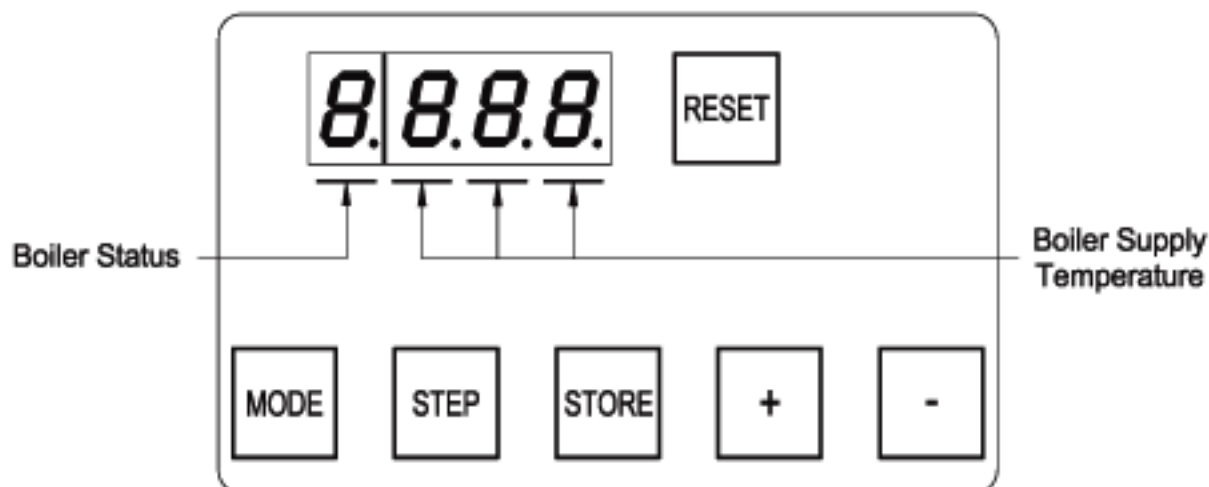

Figure 11.1: Normal Display In Standby Mode
Under normal conditions, the boiler is in standby mode and the display looks like that shown in Figure 11.1. The three digits to the right of the decimal point are the boiler's supply temperature. The digit to the left of the decimal point is the boiler's status code. A list of status codes, and their meanings, is shown in Table 11.3. Figure 11.2 is a map of the menu structure for the control panel. Push the mode key to move from one mode to the next. As you change modes, the mode you are entering is shown on the display:
- c) "*Stby*" for Standby Mode. Upon entering standby mode, "*Stby*" will briefly appear on the display and then the display will show the boiler's status along with the supply temperature (Figure 11.1).
Boiler not responding to call for heat, Status code on display ="0" (see Figure 11.1)	• Boiler is not seeing call for heat. Check thermostat or zone wiring for loose connection, miswiring, or defective thermostat/zone control.